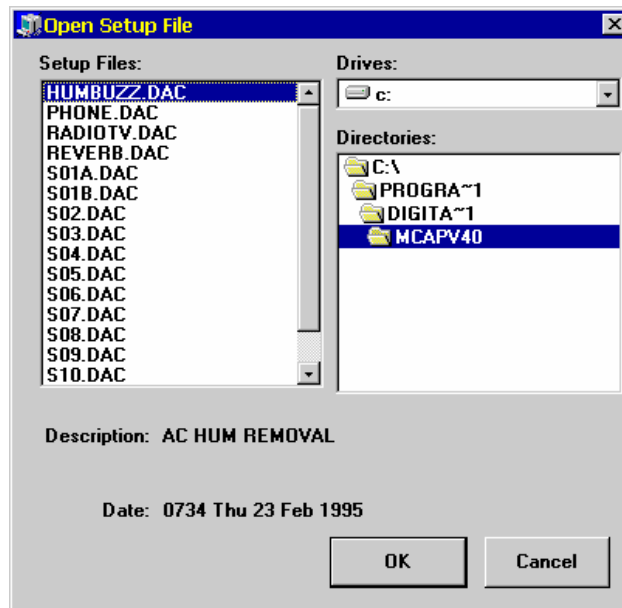

Figure 3-3 Fast Start Recall Setup Window
9. Click on **Open Setup File** to bring up a window similar to Figure 3-3: